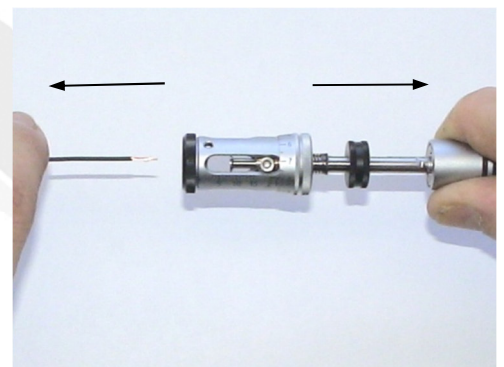

Fig. 7 Stripping
- Start the stripping action by pulling the grip and the cable, applying a consistent and constant pull. **(Fig. 7)**
**i** This action will cause the stripping head to start turning and the blades will cut through the insulation until they reach the diameter which has been set. The constant pull between the grip and the cable then causes the insulation to be stripped from the wire. **(Fig. 7)**